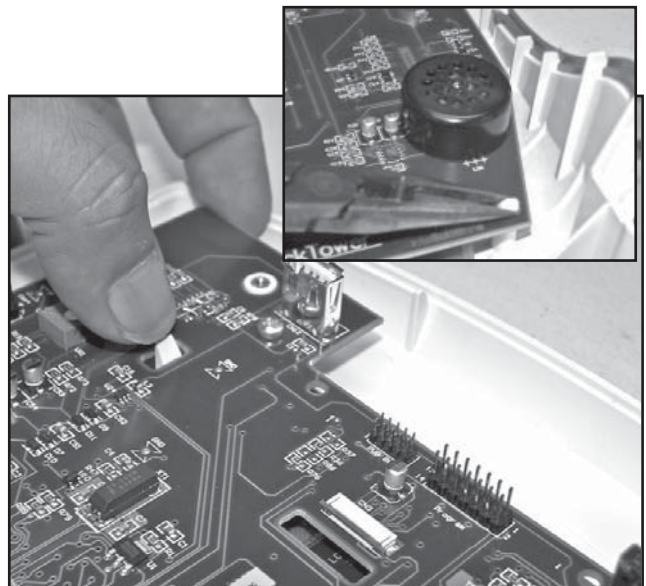

FIGURE 6.27
5. Starting at the top of the Control Board Assembly, lift Control Board with one hand, push in and release the plastic clips holding Control Board Assembly in position. See Figure 6.27.
6. While holding up on Control Board Assembly, use the Needle Nose Pliers to squeeze the lower plastic retainers holding the bottom of the Control Board. See Figure 6.27 inset.